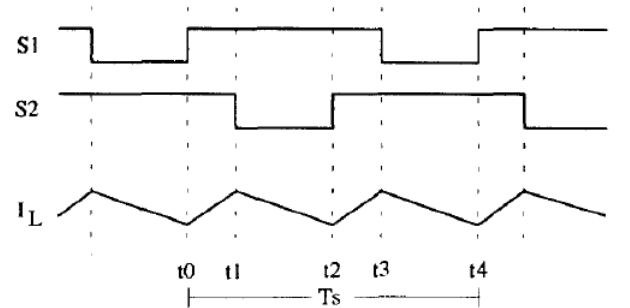

Fig 4: Operation waveform when $V_{in} < V_o/2$
2) *Region 2* - $V_{in} < V_o/2$: When the required output is more than twice the input voltage, then we apply the operating mode as shown in figure 4. In this operation mode, duty cycle $D > 0.5$